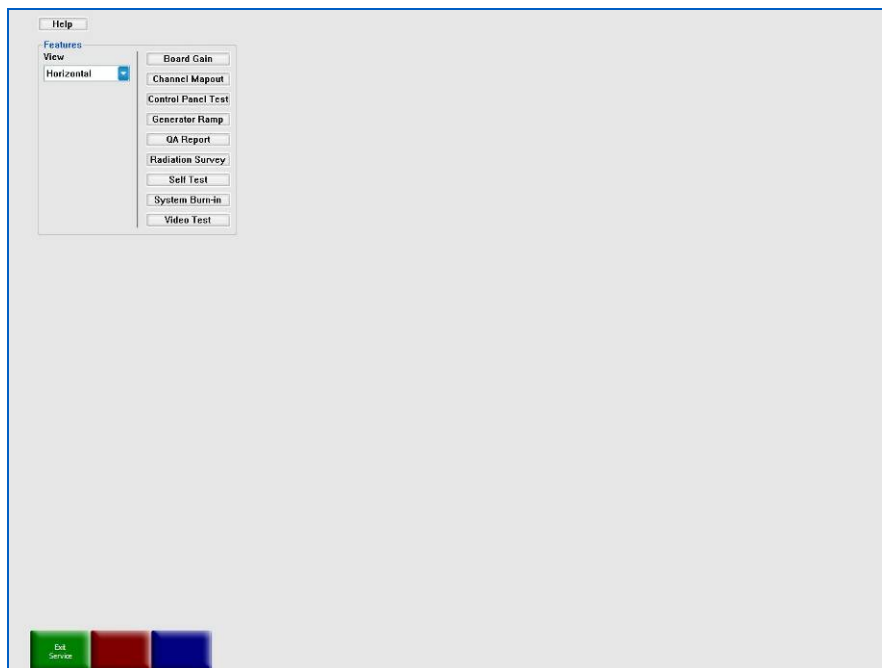

Figure 286: Main Diagnostics Screen
Selecting Exit Radiation Survey brings up the main Diagnostics screen (Figure 286).
The first option on the Diagnostics menu (Figure 286) is “Board gain” (Figure 287).
1. Select “board gain” from the top left corner of the Diagnostics Menu (Figure 286).